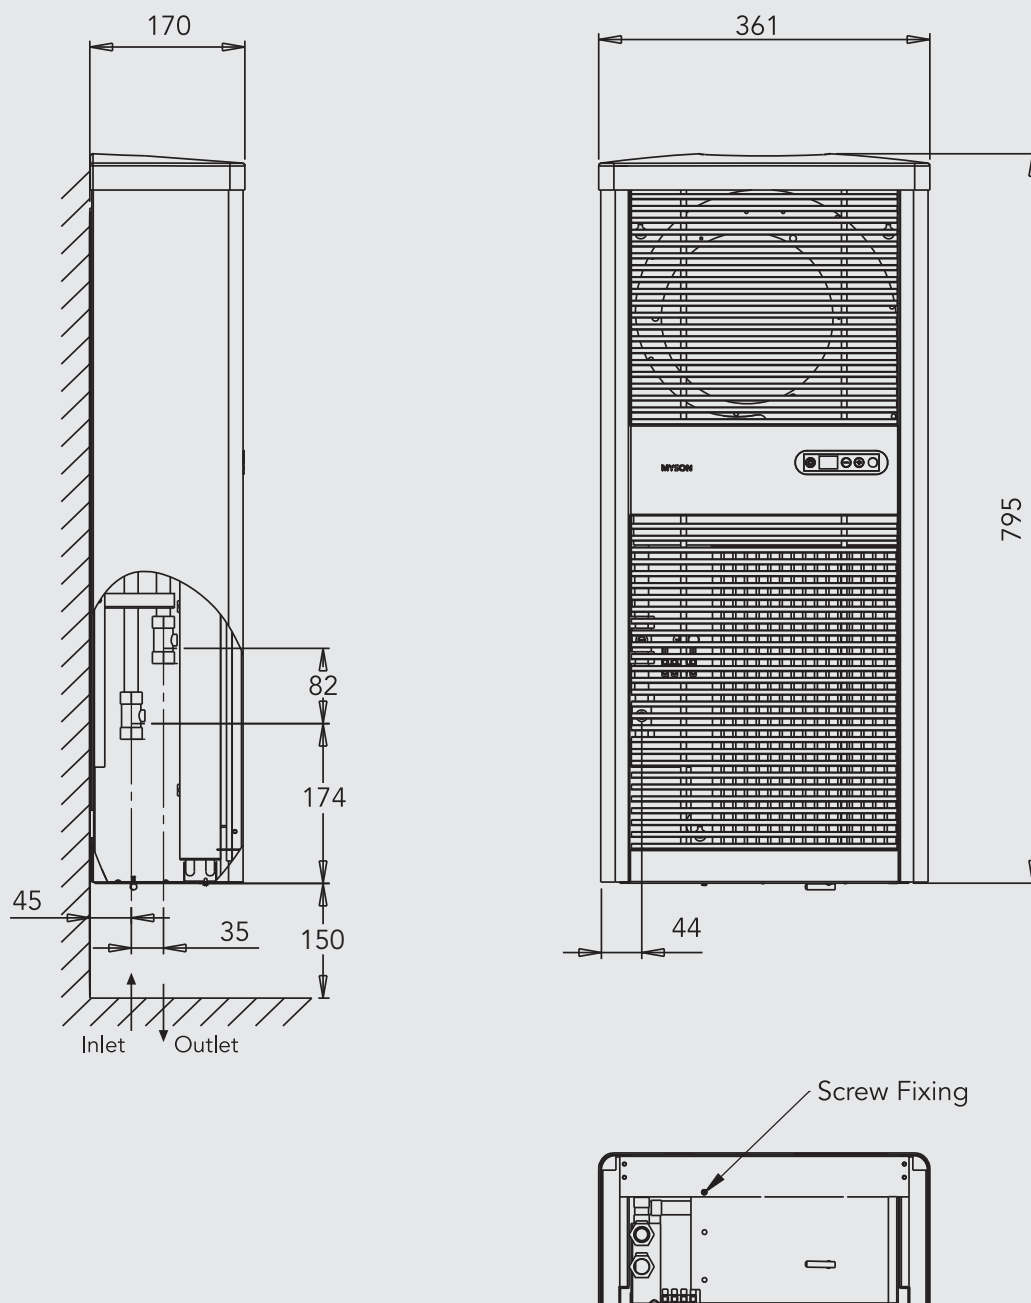

Fig. 2
- Remove outer case fixing screw at the bottom of the unit (see fig. 2).
- Connect unit to system flow and return pipes using the two 15mm isolating valves (see fig. 2).